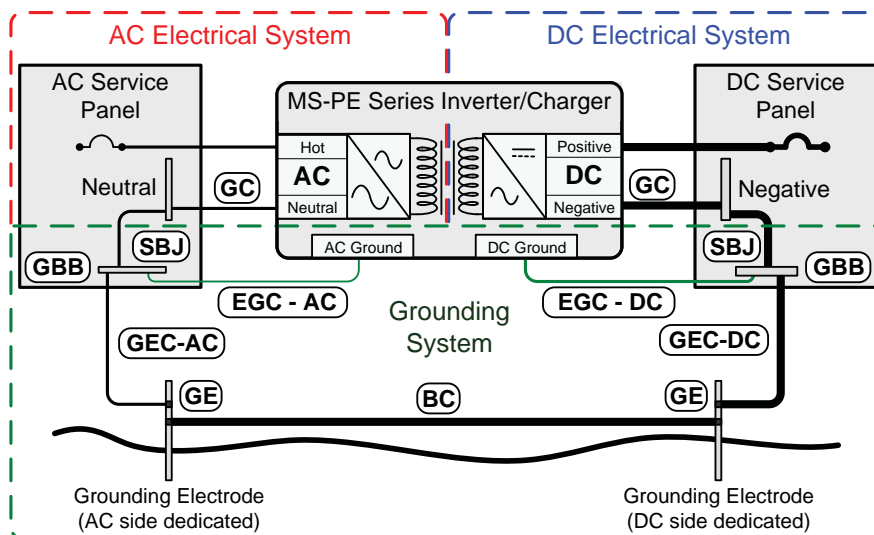

Figure 2-11, Multiple Connections to DC Ground Rod (Method 1)
- Method 1 (Figure 2-11):** This method uses a separate grounding electrode for the DC system and the AC system. In this method—since there are multiple connections to the DC grounding electrode (GE-DC)—the size of the DC grounding electrode conductor (GEC-DC) cannot be smaller than the largest conductor in the DC system (usually the battery-to-inverter cable). The DC grounding electrode (GE-DC) must be bonded to the AC grounding electrode (GE-AC) to establish a grounding system; this bonding conductor (BC) cannot be smaller than the largest grounding electrode conductor (GEC), either AC or DC.